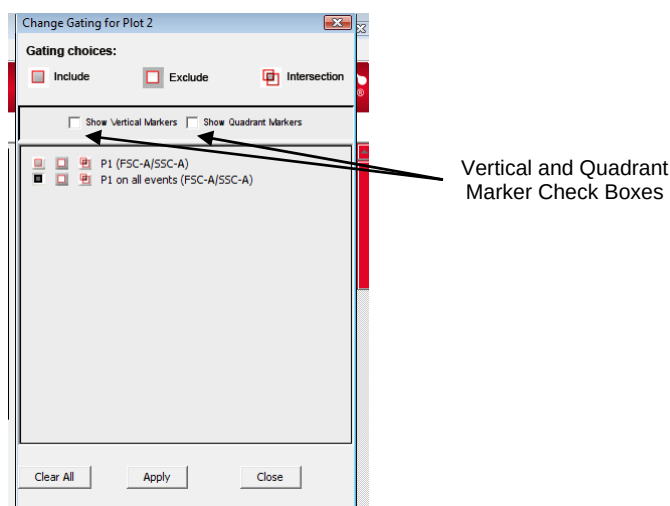

Figure 3-13 Adding Vertical or Quadrant Markers to the Gating list.
Only Polygon (P), Rectilinear (R), and Marker (M) gating regions that have been drawn will appear automatically in the Gating dialog box list of options. To use Vertical or Quadrant markers for gating, select the appropriate check box in the Gating dialog box and those choices will appear (Figure 3-13).